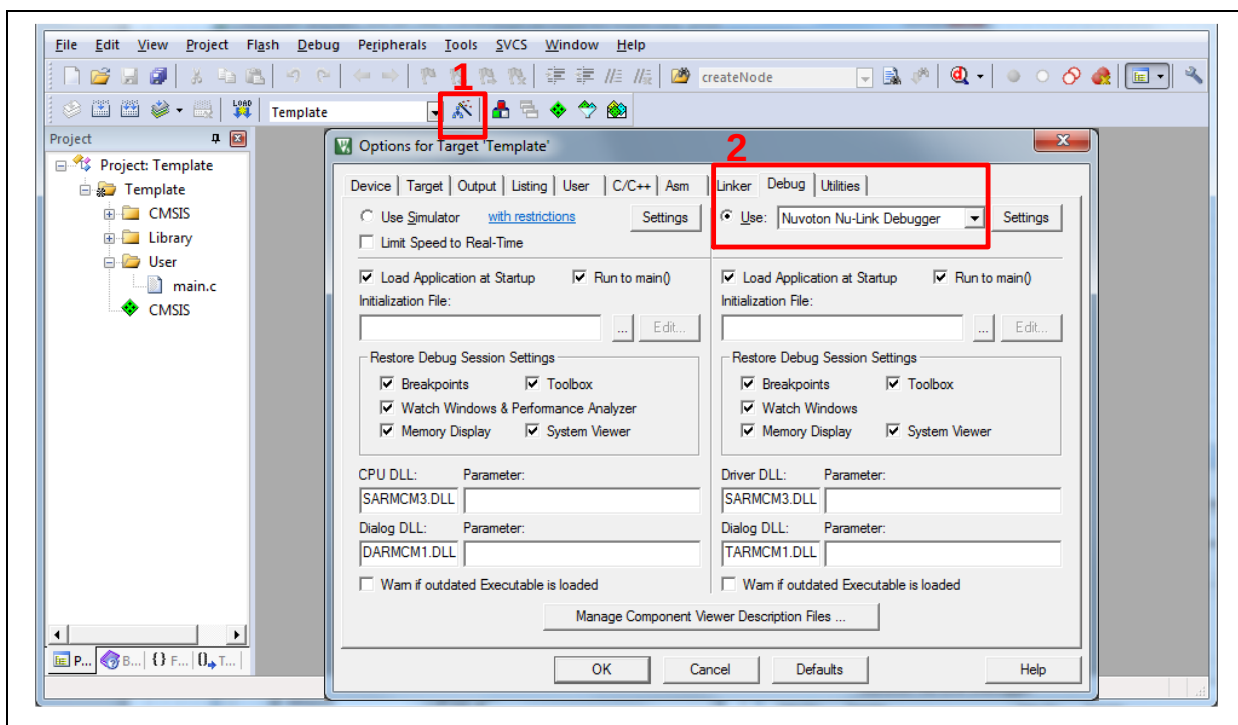
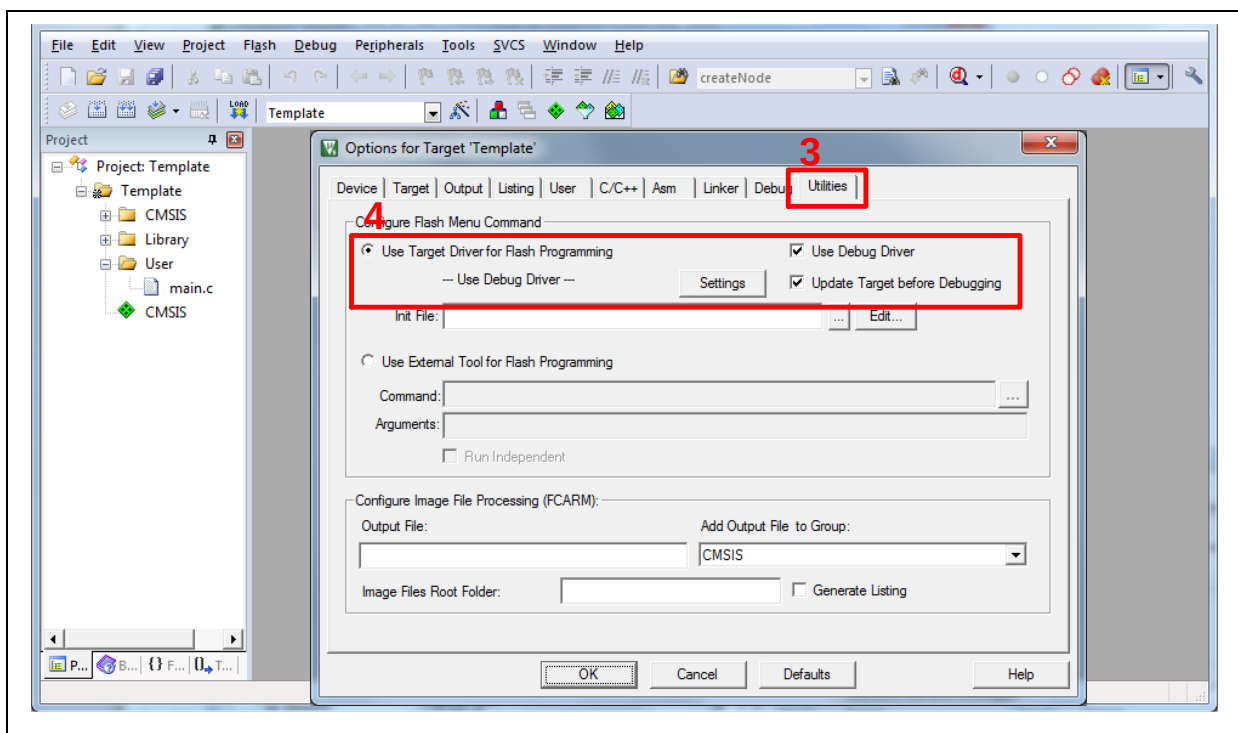
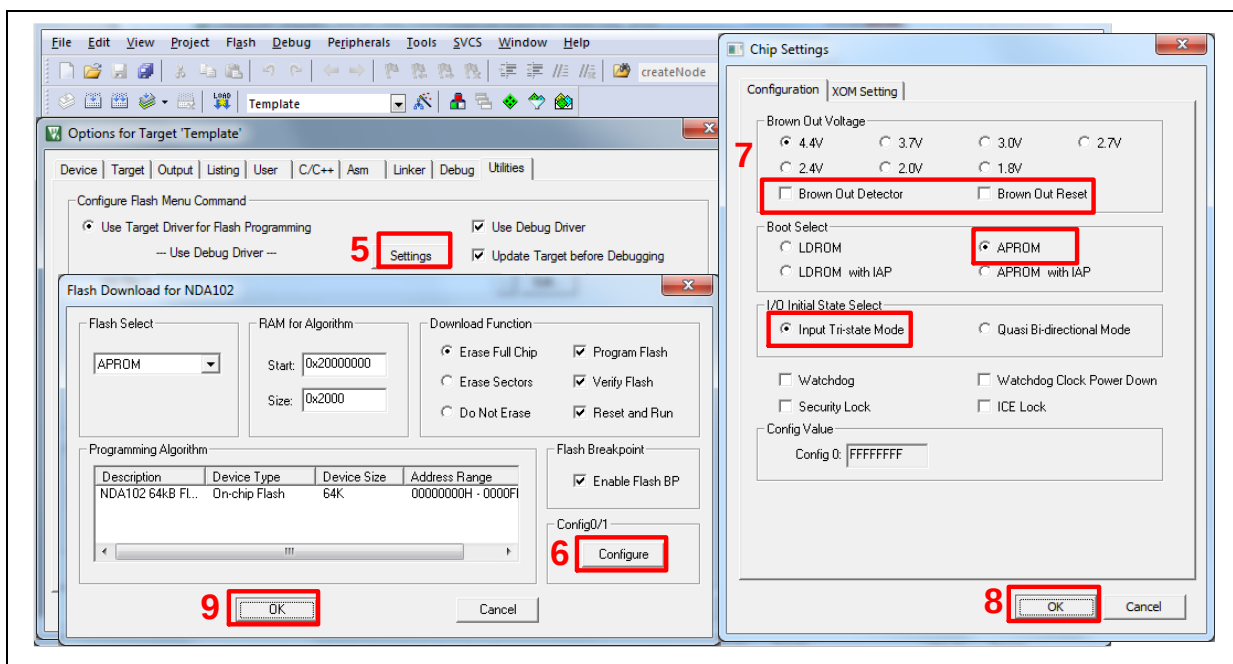

Figure 5-8 Debugger Setting in Options Window
Figure 5-9 Programming Setting in Options Window
Figure 5-10 Default "Config" Setting in Options Window
3. Make sure the debugger is “Nuvoton Nu-Link Debugger” as shown in Figure 5-8 and Figure 5-9. And check the “Config” setting is the same as Figure 5-10.
Note: If the dropdown menu in Figure 5-8 does not contain “Nuvoton Nu-Link Debugger” item, please rework section 5.2.